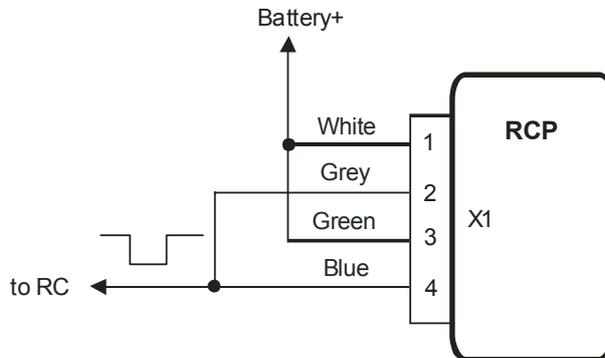

Figure 6
- The remote control with the only one output channel may be connected by the scheme at fig. 6. Such a connection gives a possibility not only to turn the heater on, but also turn the heater off too. Every one impulse on the output of the remote control receiver unit will move the heater to the opposite state: switch on idle heater, switch off operated heater. To realize this mode it is necessary to connect in pairs the inputs Heater_on+ with Heater_off+, and the inputs Heater_on- with Heater_off-.